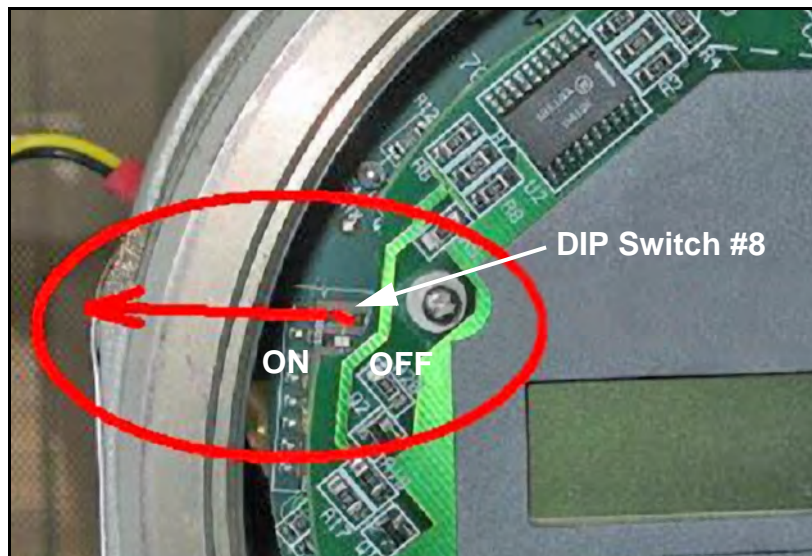

Figure 66: Moving DIP Switch #8 to ON
5. Use a small screwdriver to move the top (#8) switch to the *ON* (left) position (see *Figure 66* below).